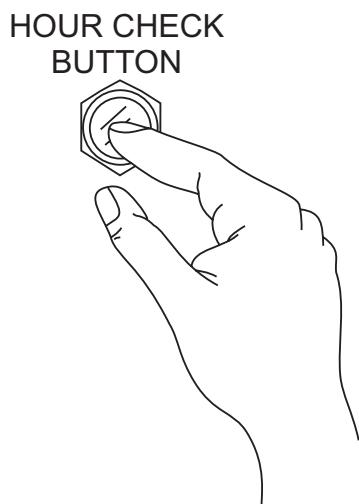

Figure 94. Hour Check Button
1. With the engine stopped (**OFF**), push and hold the **Hour Check Button** (Figure 94) located on the control panel.